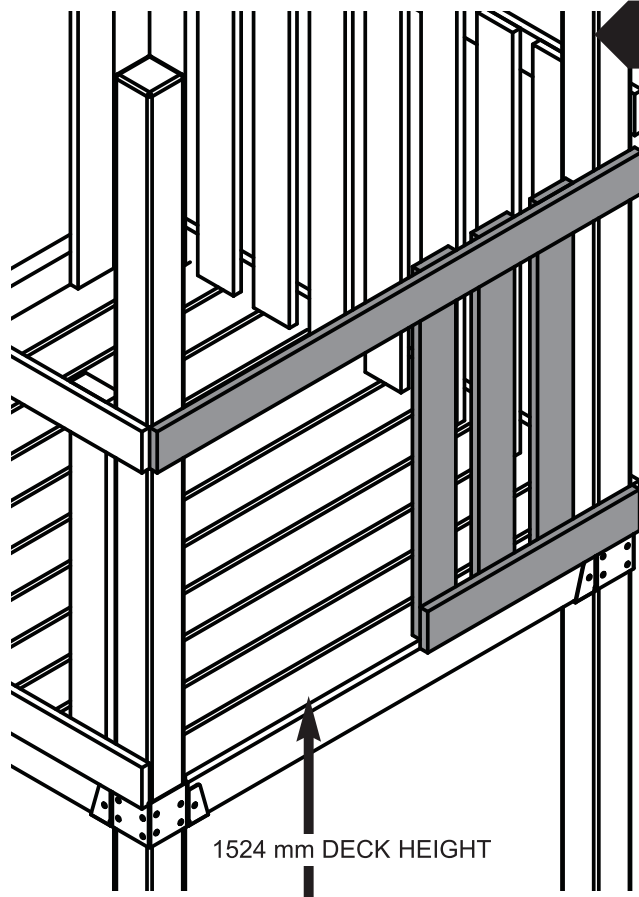

Fig. 6
1. **Carefully** remove your Barrier Support Boards from the barrier where you would like to place your slide, making certain you will have a clear 1830 mm Safety Zone for your slide. (**Fig. 6**). **Retain** this lumber and fasteners as you will need them in a later step.